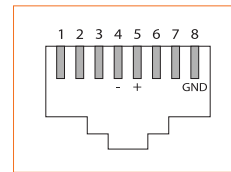

Figure 4 - RJ45 Pinout
- Plug the cable into the RJ45 jack of the T1000 (if CAT5 cable is opened at the controller, refer to Figure 4 for pinout of the T1000's RJ45 jack).